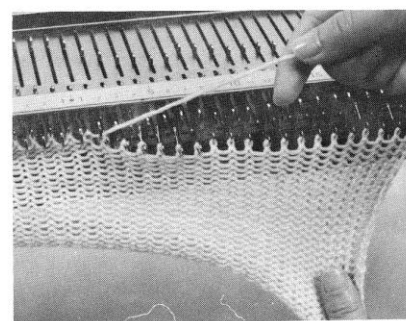

Fig.133
- c) Continue to pull the yarn gently in an upward direction and it will lift out of the needle hooks leaving the stitches of the previous row in the hooks. (Fig.133)
- d) Before proceeding to knit, bring all needles into the holding position (E).